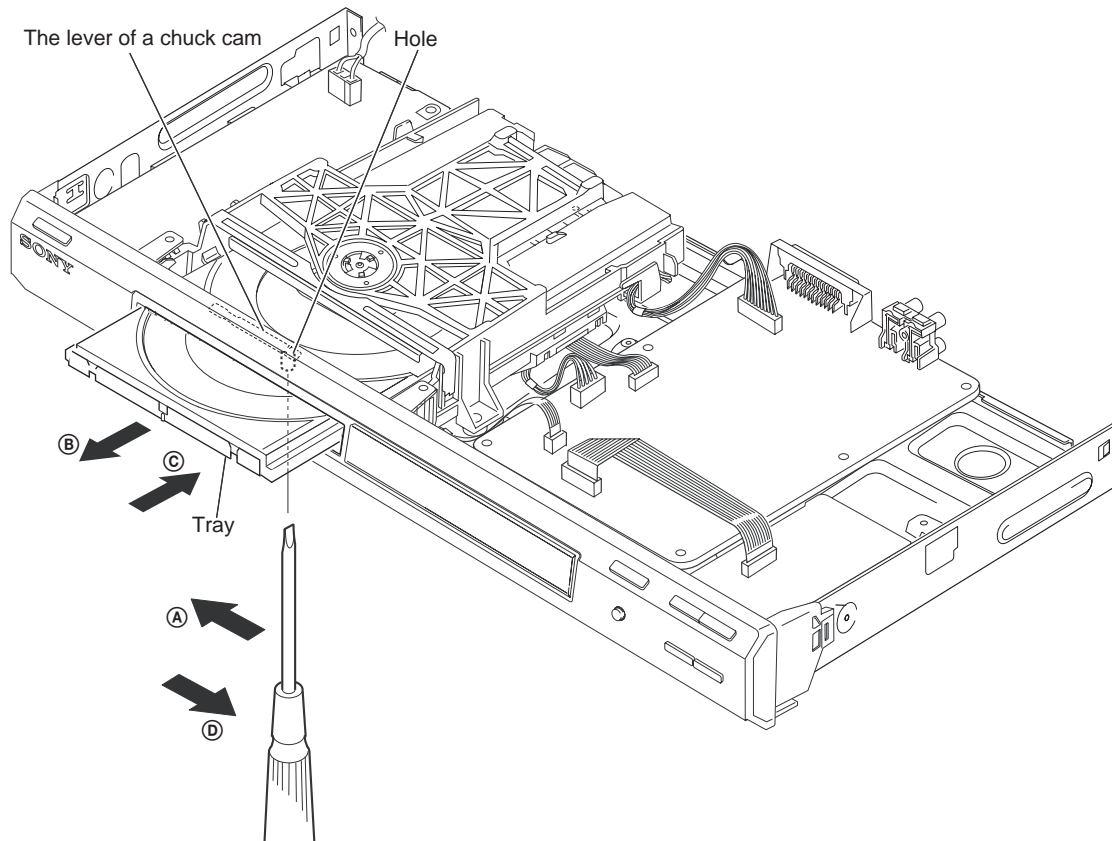

Fig. 1.
- 1) Open dust cover to access to a hole insert a tapering driver into the aperture of the unit bottom, and move the lever of chuck cam in the direction of the arrow A. (See Fig. 1)
- 2) Draw out the tray in the direction of the arrow B, and remove a disc. (See Fig. 1)